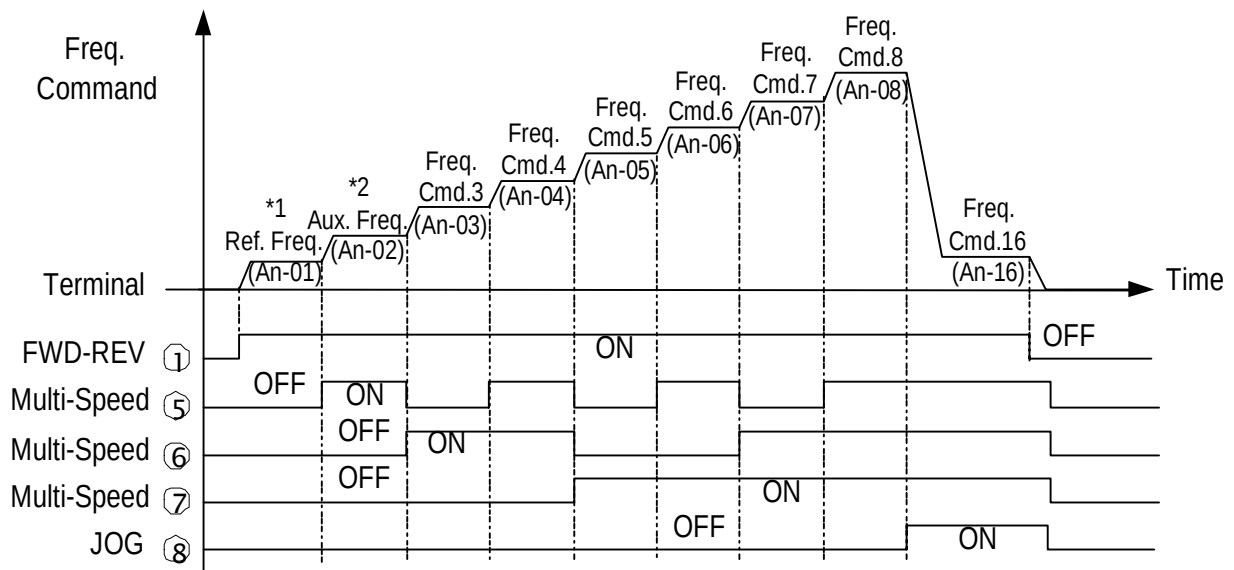

Figure 41 Time Chart for Multi-Step Speed and Jog Command
- Figure 41 shows the operation sequence of a multi-step speed and jog command.